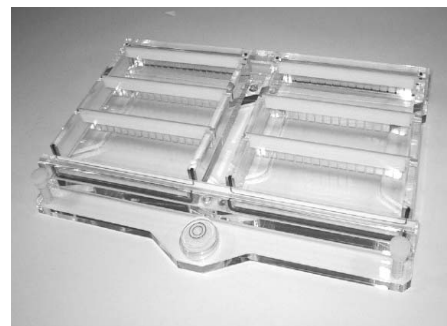

Figure 4-2. Casting Gels
2. For shipping and convenient storage, the gel trays are packaged inside the casting chamber (Figure 4-2). To remove the gel trays, hold the casting chamber firmly with one hand; grasp the long sides of the UVT gel tray and pull up slowly at an angle with your other hand. The trays fit snugly for leak proof gel casting; therefore they may be tight. “Walking” the tray upwards at an angle may be helpful. The tightness will diminish, the more the unit is used.
3. To cast two gels, place the gel trays into the casting chamber (Figure 4-2), so the gasketed ends press against the walls of the casting chamber. Make sure the gel tray is pressed all the way down and rests level on the platform. The bubble in the bubble level should rest in the center circle. To level the casting chamber, adjust the leveling screws on the front of the casting chamber (the third screw is for balance) until the bubble is in the center circle.